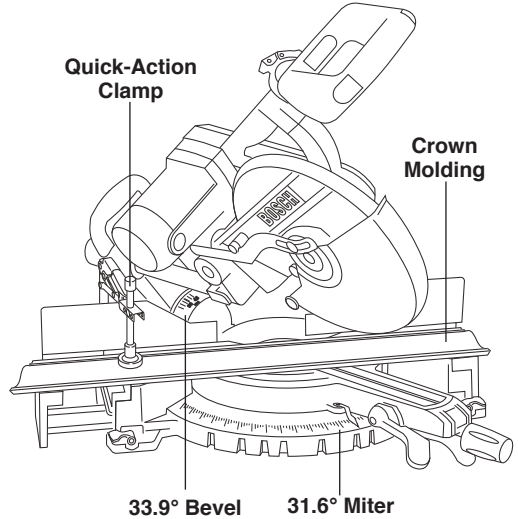

Figure 39. Crown Molding Laying Flat
1. For 90° corner, set the bevel and miter angles using Charts below. Tighten the miter lock knob and the bevel lock lever (Figure 39).